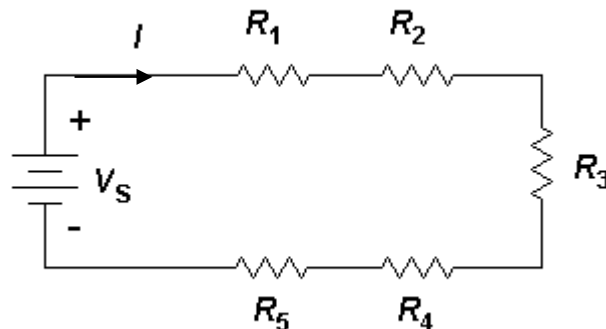

Figure 6 - 1
4. Using a value for V_S of 10 V, calculate the nominal, minimum, and maximum values for I in the circuit of Figure 6 -1 and record them in Table 6 -2.
5. Connect the circuit in Figure 6 -1 and adjust V_S to a value of 10 V. Measure the current I and record it under I_{meas} in Table 6 -2. (Does it appear consistent with R_{meas} ?)